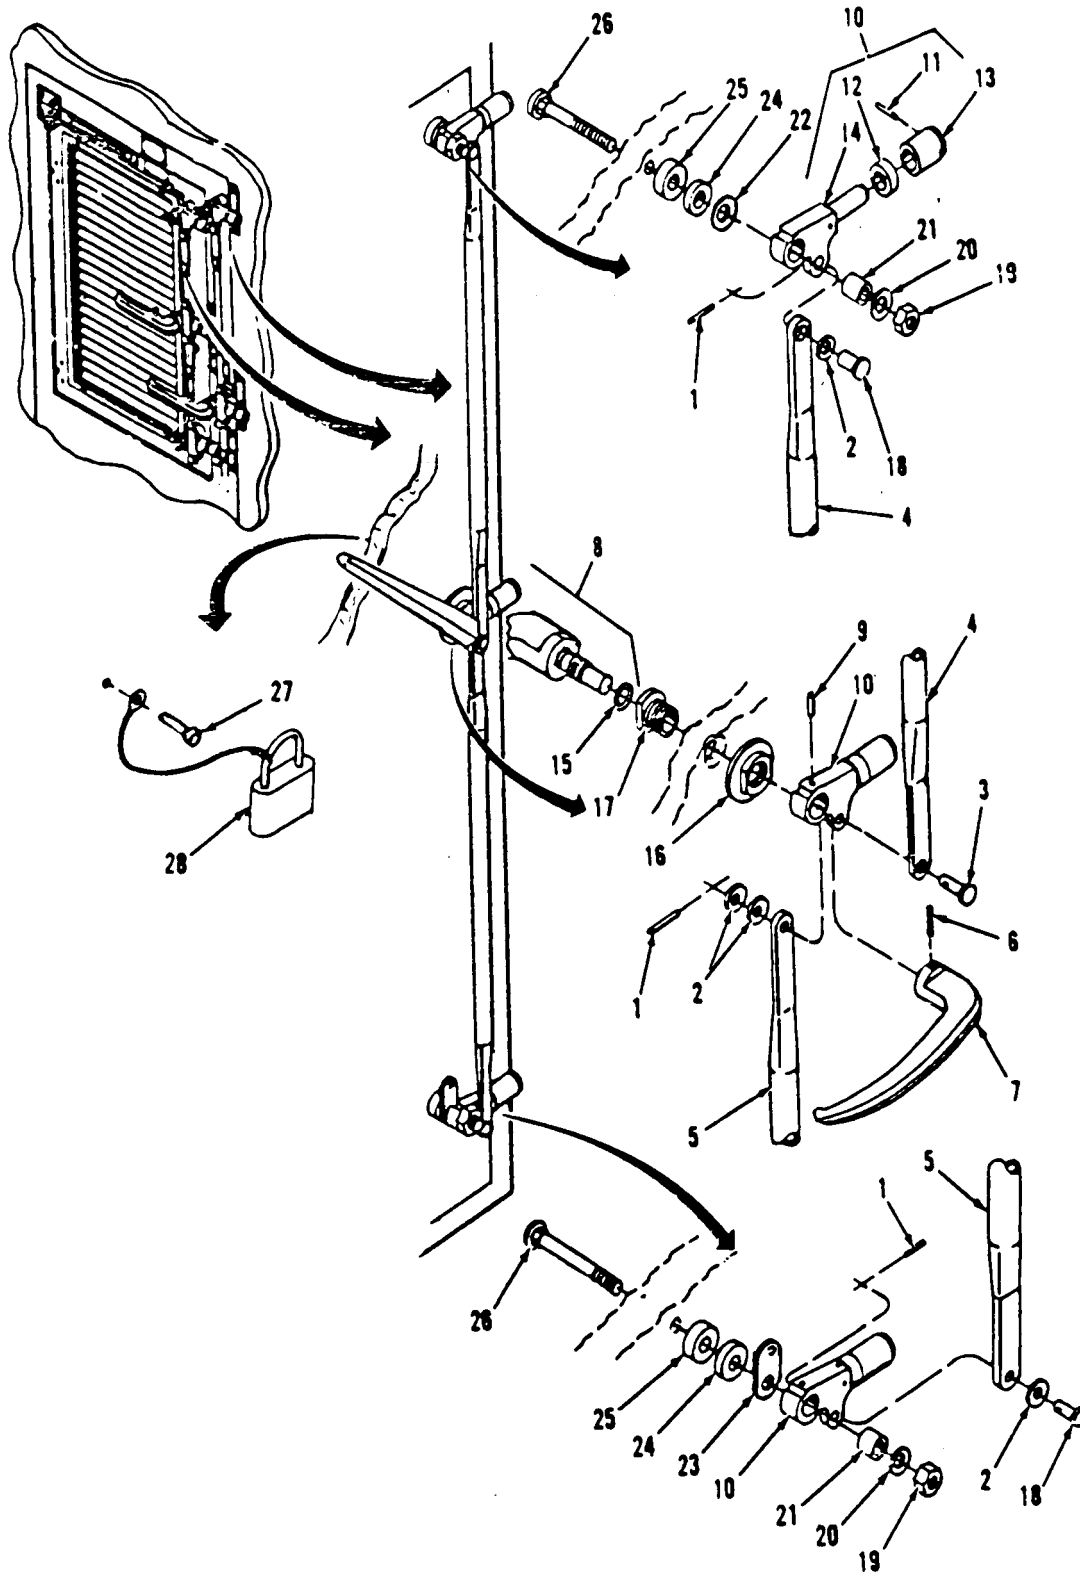

Figure 3-21. Door Handle Assembly and Latching Mechanism Replacement.
Except for the length of the latch assembly rods (items 4 and 5, Figure 3-21), the inner door and outer door handle mechanisms are identical. Maintenance procedures are the same for both.
- (1) Inspect the door latch assembly for secure mounting and broken or worn parts.
- (2) Inspect for ease of operation.
- (3) Inspect the door handle for tightness and for worn or damaged parts.
b. Service. (Figure 3-21) Service of the door latch assembly consists of lubricating the door handle (8) and latch arm assemblies (10) with lubricant.
c. Disassemble. (Figure 3-21)